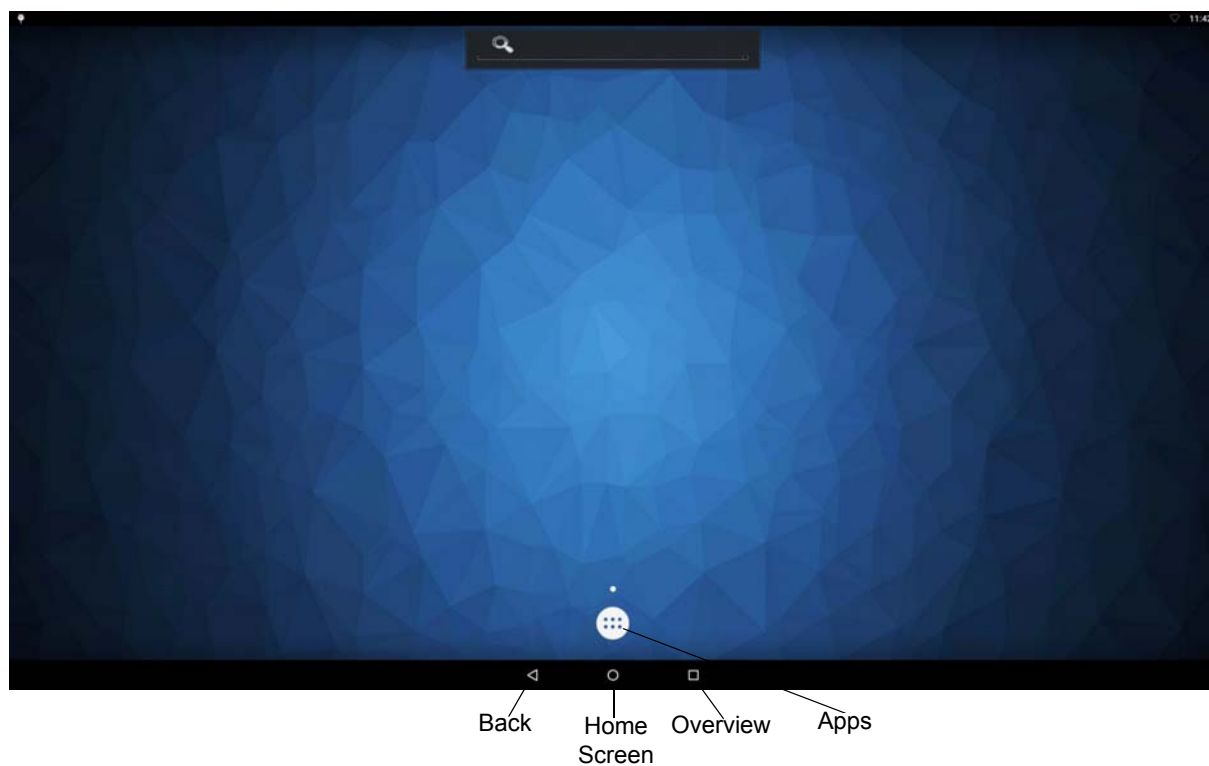

Figure 2-1 Background Screen
1. Select the **Apps** icon (see Figure 2-1) to open the Apps menu.